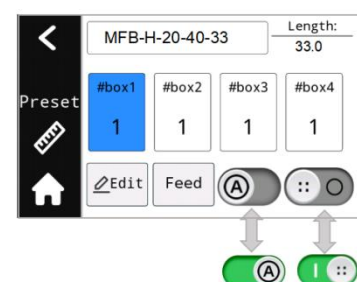

Figure 5a
1) Tap  on the home page to enter the mode. (Figure5a)